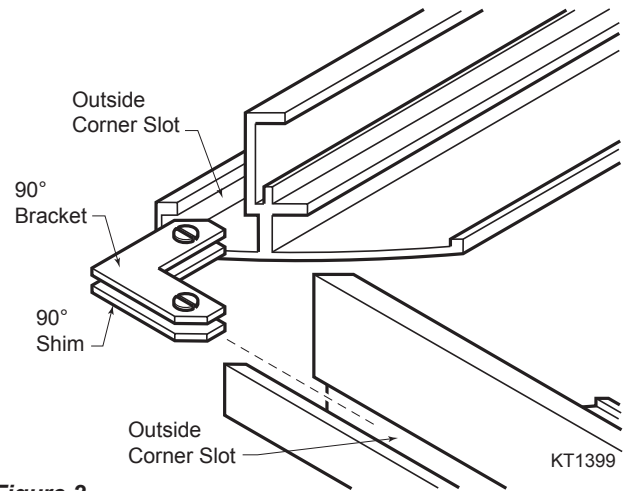

Figure 2 - Secure Corners Together
3. Slide one (1) 90° bracket (with attached screws) and one (1) 90° shim in the outside corner slot where the top and side trims meet. *Figure 2*